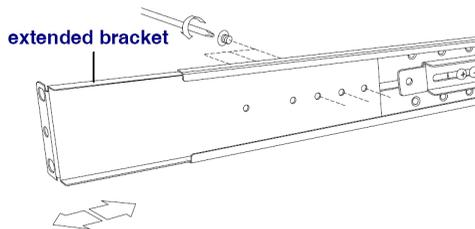

Figure 13 Inserting and tightening the long bracket
3. Insert the long bracket into the rail then adjust the bracket to fit your cabinet. Tighten at least 2~3 screws along the length you need. See Figure 13.